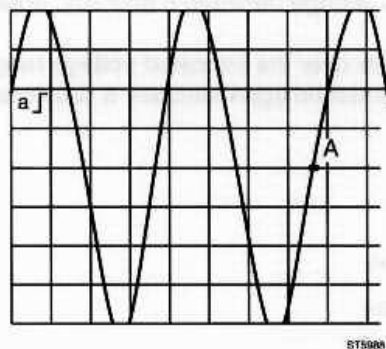

Figure 4.9 Trigger level indication on screen
- E Press the TRIGGER key. Use the select/adjust keys to verify that the trigger level range is more than 8 divisions (4 divisions up and 4 divisions down). The selected trigger level is shown on the display (reversed indication "⬢ LEVEL"). Also the trigger level indication, marked with an A ⌋ will shift, while shifting the trigger level. See figure 4.9.